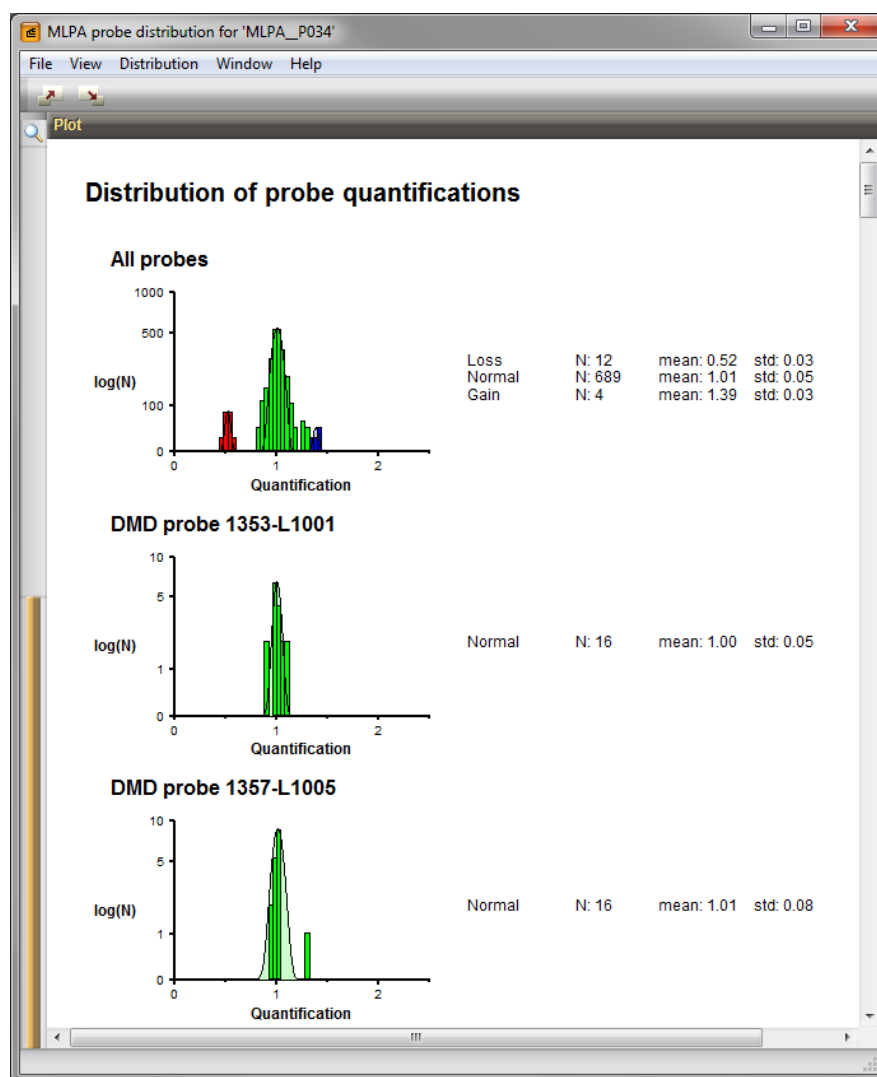

Figure 4.12: The *MLPA probe distribution window*.
- 8.1 With a MLPA fingerprint type or auxiliary character type highlighted in the *Experiments* panel, select **MLPA > Probe distributions**. This pops up the *MLPA probe distribution* window (see Figure 4.12).
From the probe distributions of the example data, it can be seen that a number of probes that were automatically assigned as loss, are manually assigned as normal (see the "All probes" plot in Figure 4.12).